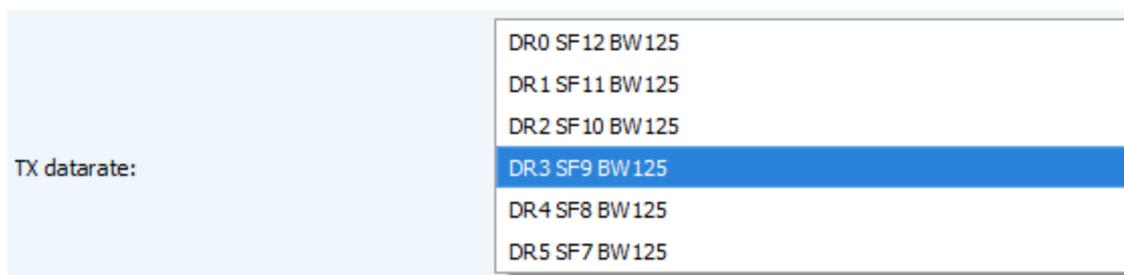

Figure 25 – Choice of the TX datarate
3.5.2.9 «TX datarate» (not displayed in the "Simple" mode) – the device transmission datarate at which it will transfer packets to the LoRaWAN network (fig. 25). This speed can be changed by the network server if the ADR algorithm has enabled.